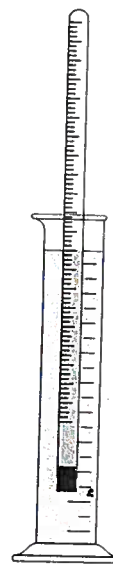

Figure 4.
16. Cover the hole in the stopper with your finger and transfer the eudiometer tube to the 500-mL graduated cylinder (see Figure 4).